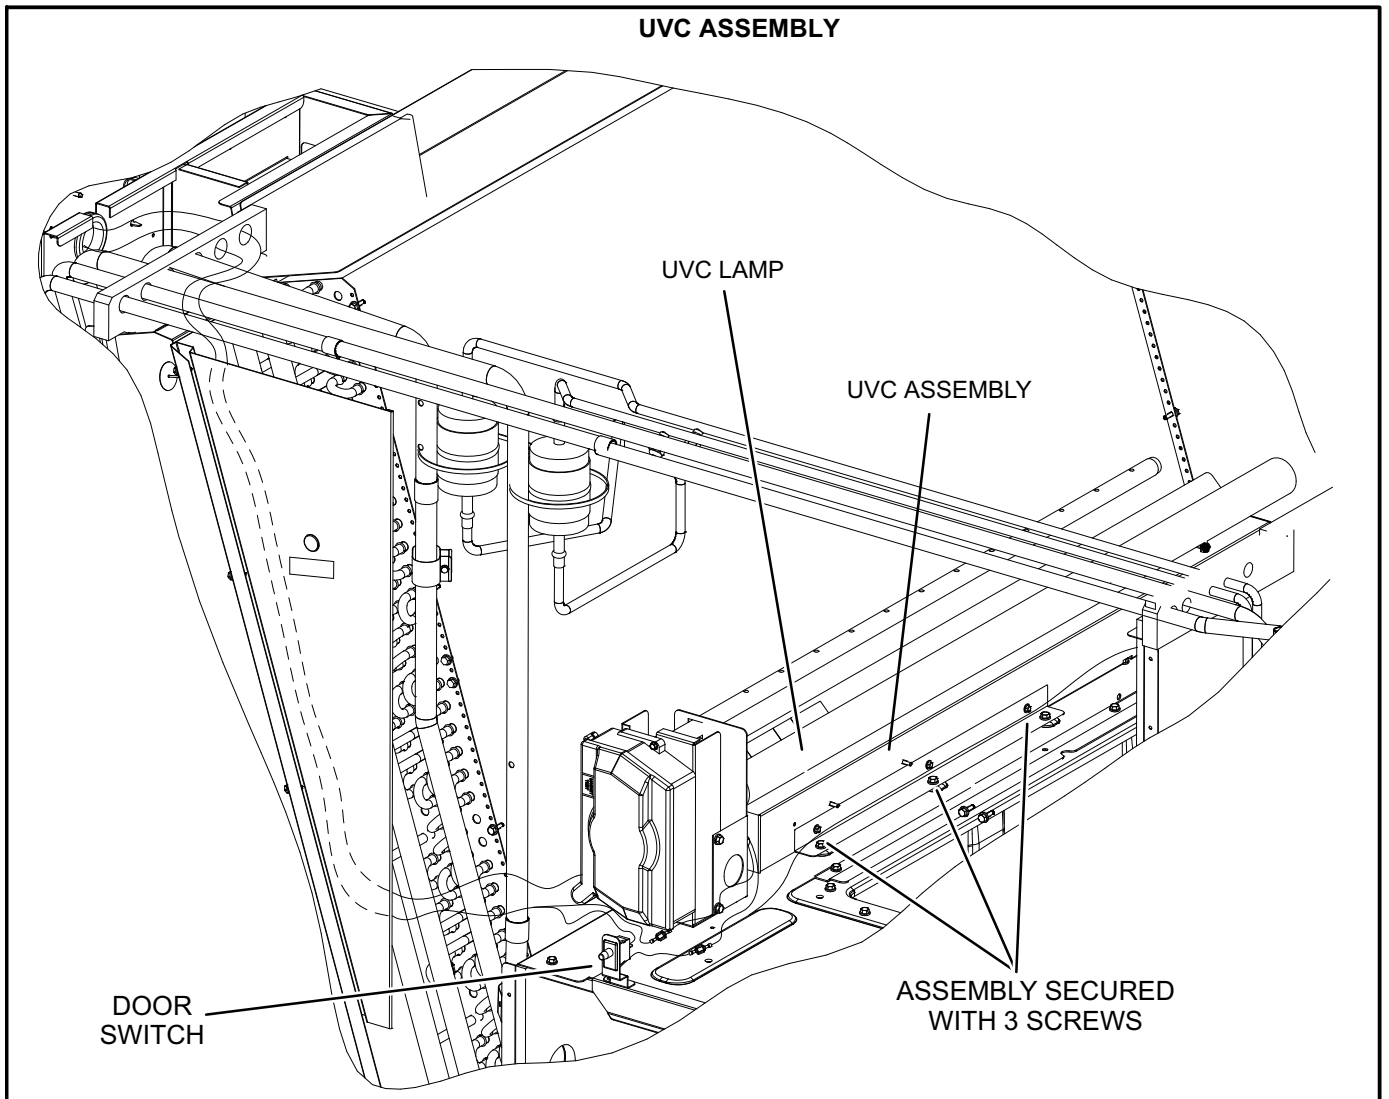

FIGURE 38
When the UVC light is factory installed, the lamp is shipped in a foam sleeve. The lamp is attached to the UVC light assembly on the blower deck. See figure 38. Remove the lamp and install into the UVC light assembly as shown in steps 2 through 11.
- 5- Remove and retain the (3) screws securing the UVC assembly. Carefully slide the complete UVC assembly out through the blower access door. See figure 38.
- 8- Carefully place the UVC assembly on the blower deck. Line up the mounting holes on the UVC assembly with the mounting holes on the blower deck. See figure 38. Use the retained screws provided to attach the UVC assembly in place.